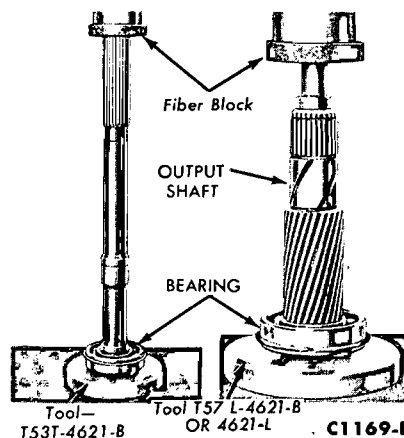

FIG. 10—Replacing Output Shaft Bearing
1. Remove the snap ring securing the output shaft bearing. Remove the bearing as shown in Fig. 10.
2. Press the output shaft bearing onto the shaft as shown in Fig. 10, and install the snap ring on the shaft.